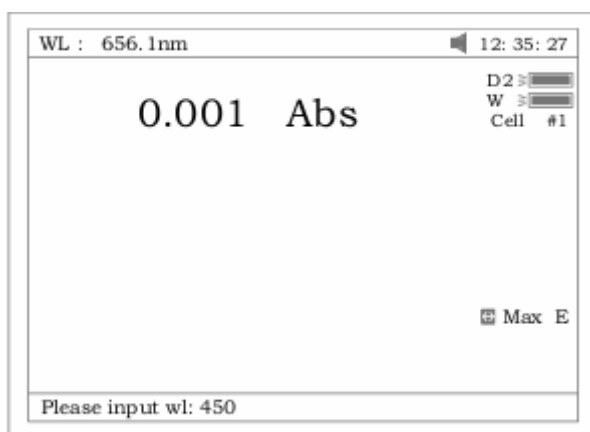

Fig.11
- Use a numeric keypad to input wavelength (Fig 11).